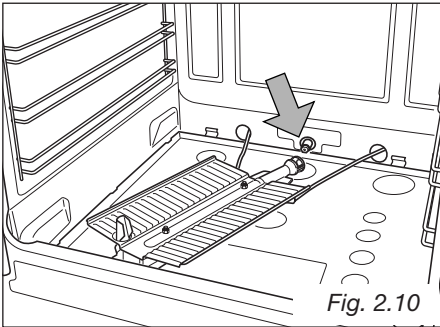

Fig. 2.10
- Withdraw the burner as shown in figure 2.10 and rest it inside the oven. Take care not to damage the wire to the ignition electrode and the safety valve probe.
- Using a 7 mm box spanner, unscrew the injector (indicated by the arrow in fig. 2.10) and replace it by the proper one according to the kind of gas. Then replace the burner repeating the above steps in reverse order.